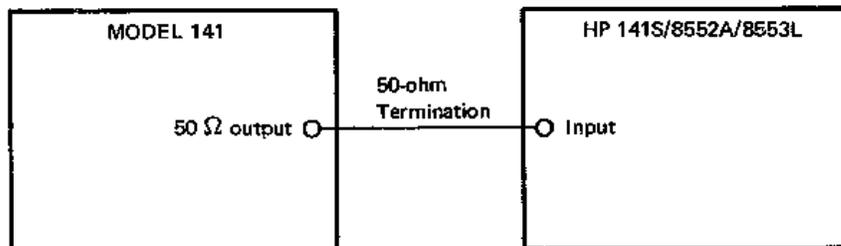

Figure 4-3. Spectrum analysis test setup.
11. Disconnect the distortion analyzer and oscilloscope and connect the spectrum analyzer to the Model 141 as shown in Figure 4-3.